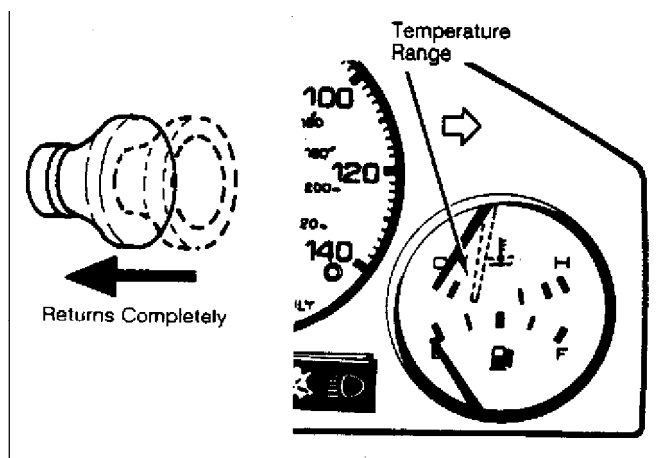

Fig. 5: Checking Automatic Choke Release
- 2) Start engine and set engine speed at 2000 RPM with choke knob. As engine temperature reaches range, choke knob should return automatically and freely. See Fig. 5.